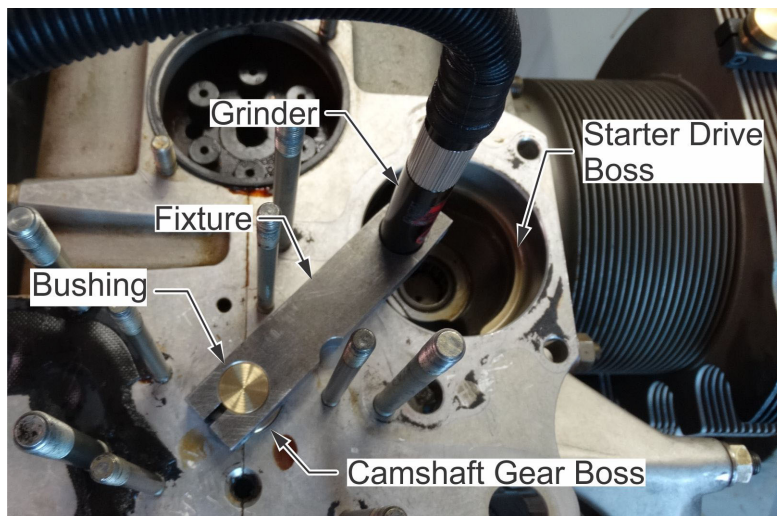

Figure 12. Clearance Cut, Setup
- e. Insert the radial grinder assembly (bushing) into the camshaft gear boss as shown in Figure 12.